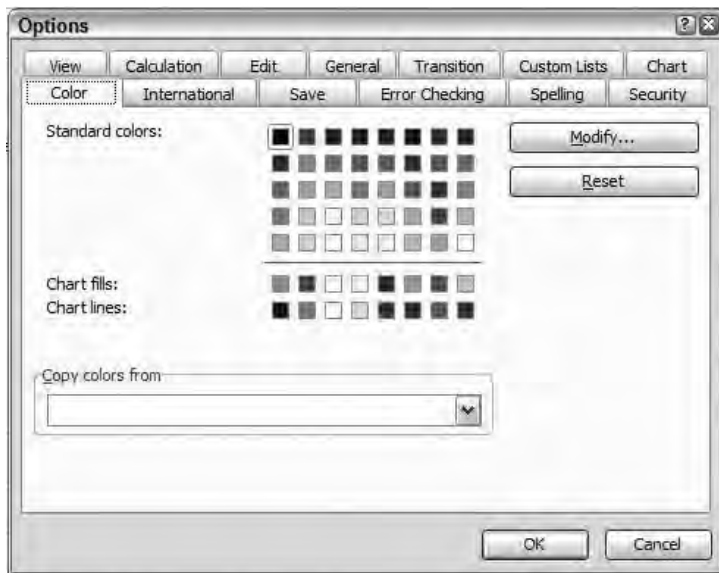

Figure 16.8: Use the Color tab in the Options dialog box to create your custom color palette.
2. Choose Tools, Options to display the Options dialog box with Standard color palette as shown in Figure 16.8.